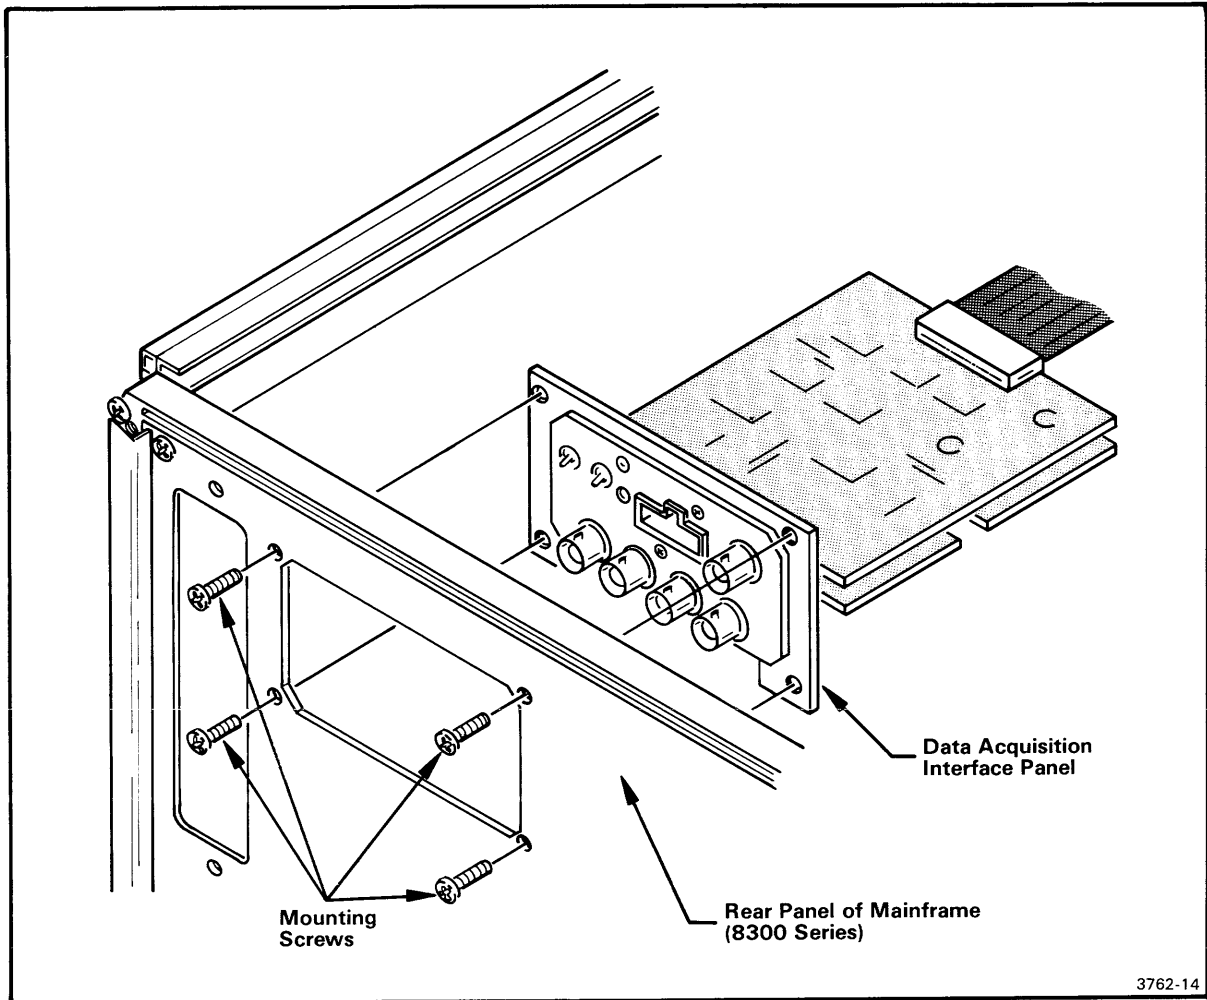

Fig. 3-3. Installing the Data Acquisition Interface.
2. Mount the Data Acquisition Interface in the rear panel of the mainframe, as shown in Fig. 3-3. Use the screws removed in step 1.